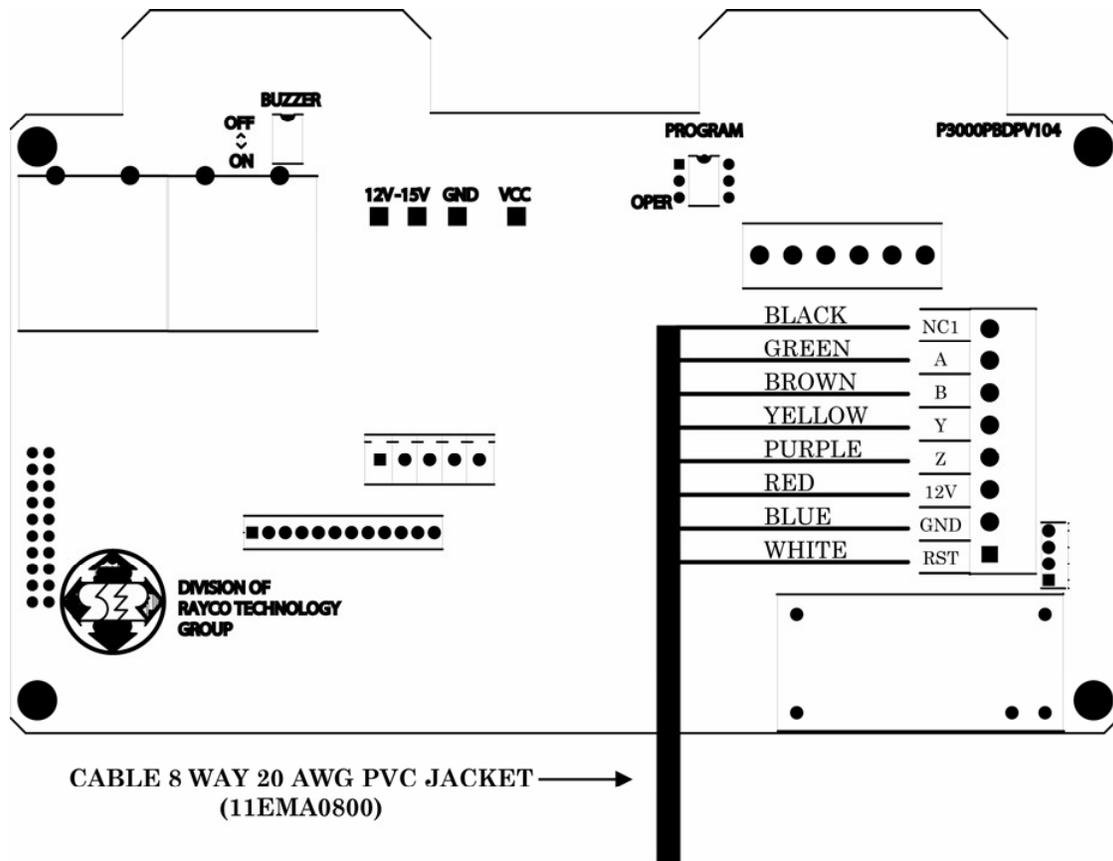

Figure 2.4.2 Display terminal block connection
Cable connections to the display are made using the 8 screw terminals on the display processing board. These terminals are shown on figure 2.4.2. Use the following instructions to connect the i3000 display.
3. Wire according to the supplied drawing on figure 2.4.2. Connect the wires by stripping off 6 mm of insulation, inserting the wire into the proper terminal and tightening the screw firmly.